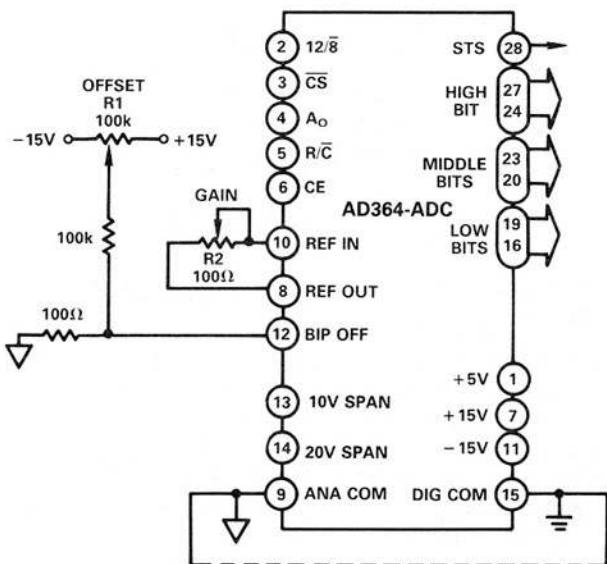

Figure 10a. Unipolar Gain & Offset
Offset Adjust, AD364-ADC: Offset adjust circuits for unipolar and bipolar operation are shown in Figures 10a and 10b. In each case the potentiometer should be a multi-turn, low temperature coefficient device, such as 20-turn cermet. Lowest offset drift in unipolar operation will be realized when the fixed resistors are low-TC (100 ppm/ $^\circ\text{C}$) metal-film types.
*Refer to Figure 10a for gain and offset adjustments.